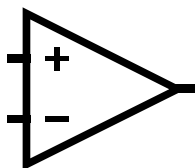

Figure 16.1: Comparator
Comparators compare two analog voltages, outputting a digital signal depending on their relative magnitudes. Thus, comparators function as 1-bit analog to digital converters. Figure 16.1 depicts a comparator. If the voltage at the non-inverting (“+”) input is larger than the voltage at the inverting (“-”) input the output voltage will be high (1); otherwise it will be low (0).